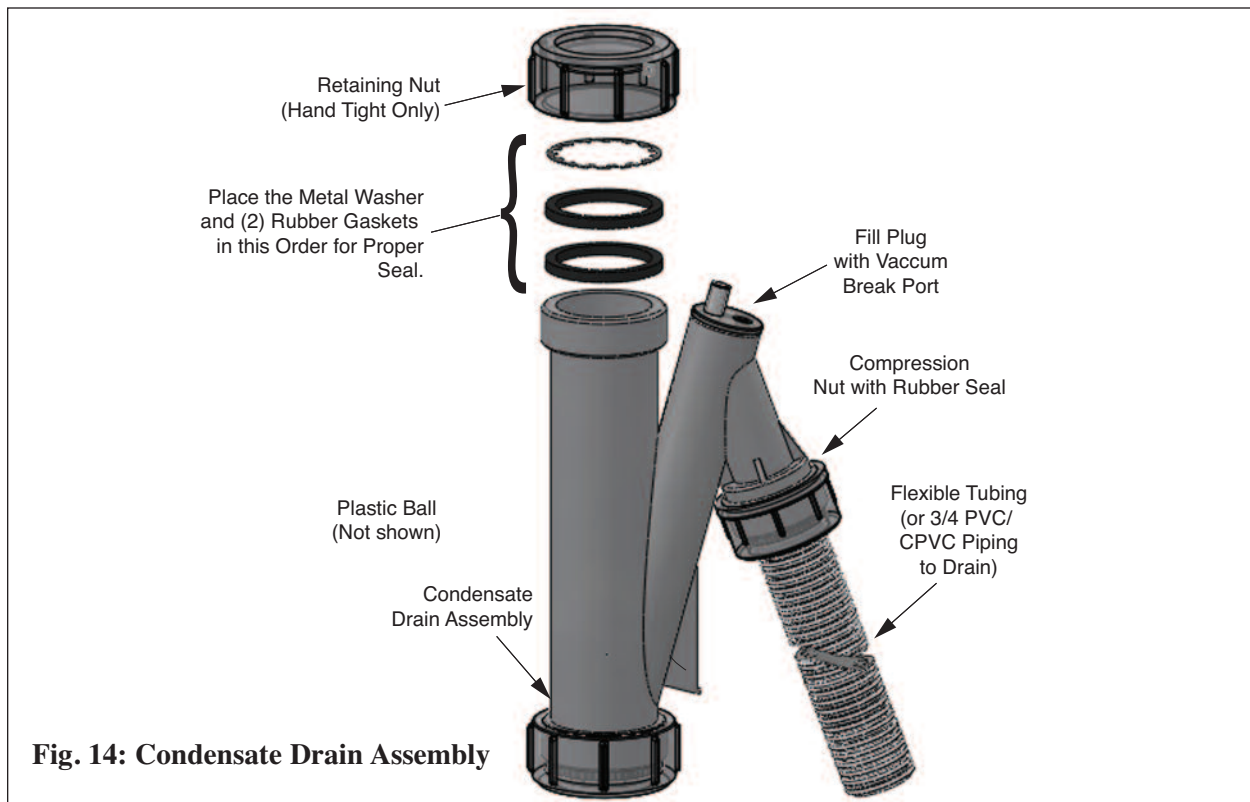

Fig. 14: Condensate Drain Assembly
1. Locate the condensate drain assembly and install as shown in Fig. 14 page 25.